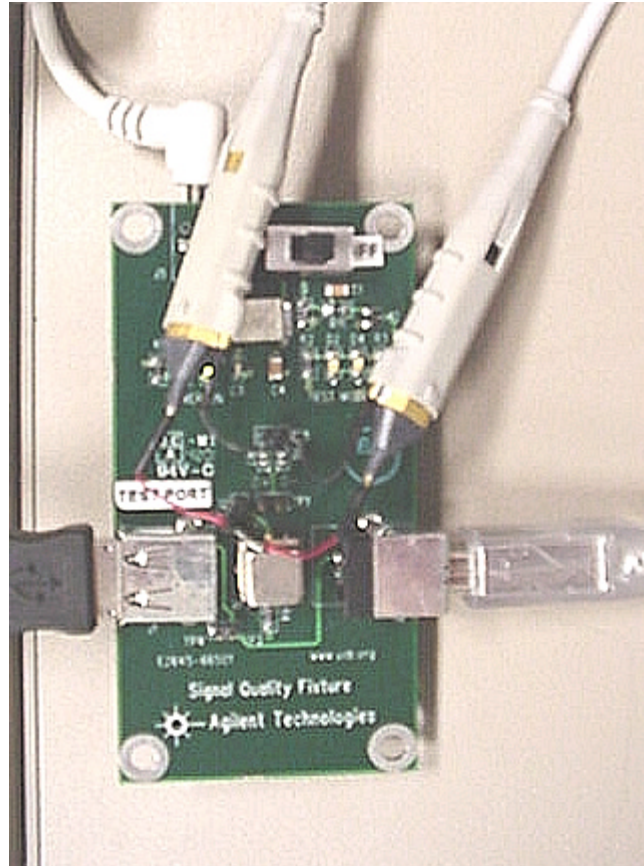

Figure 23. Probe Connection for CHIRP Testing
2. Connect the scope probes to the fixture as shown in Figure 23...